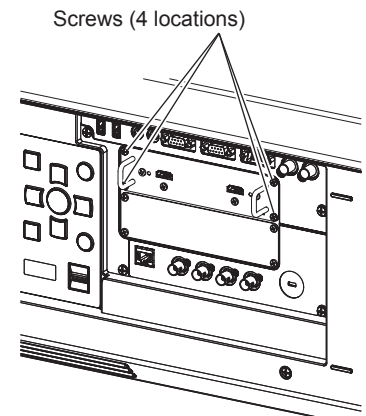

Fig. 3
3) Fix the Interface Board. (Fig. 3)